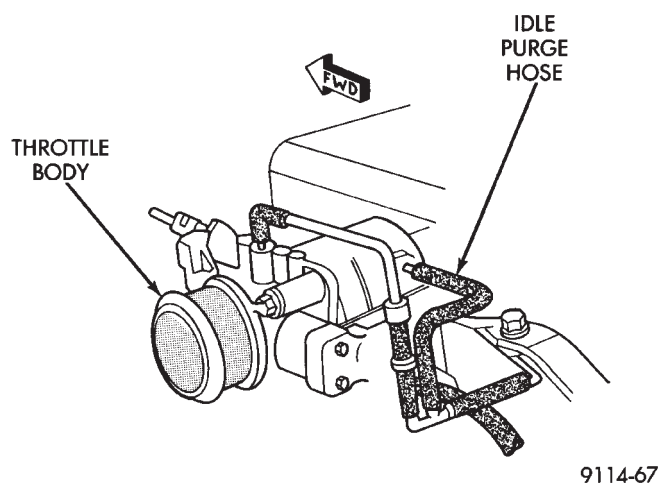

Fig. 9 Idle Purge Hose—3.0L
(8) Disconnect the idle purge hose from the engine vacuum harness tee (Fig. 9).